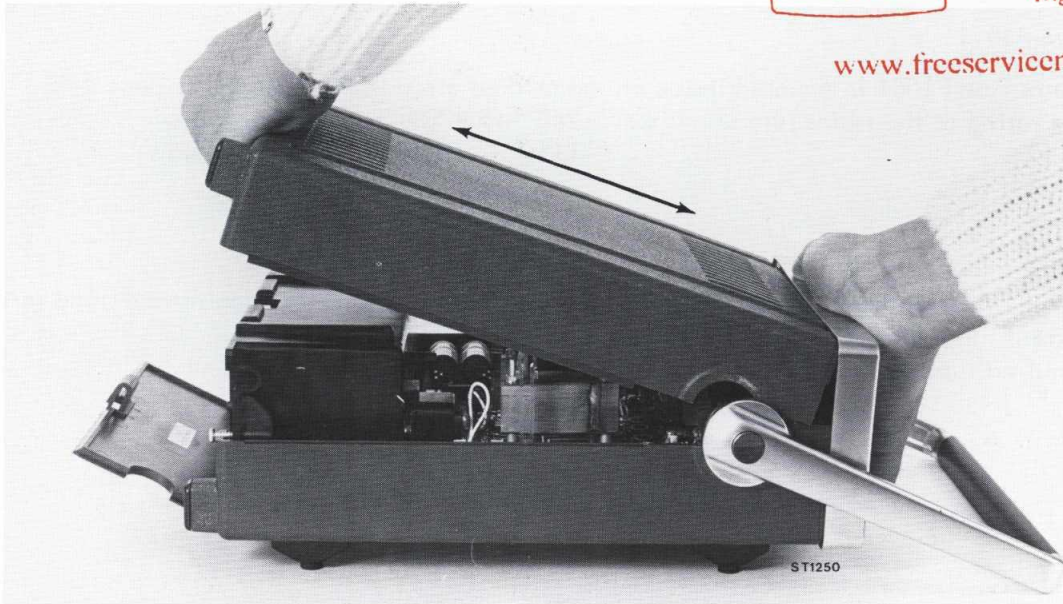

Fig. 29. Removing top cover
- Lift the cover at the rear and pull it out of the front panel (Fig. 29, page 58)
- To refit the cover press the snaps in the front panel (Fig. 29, page 58)